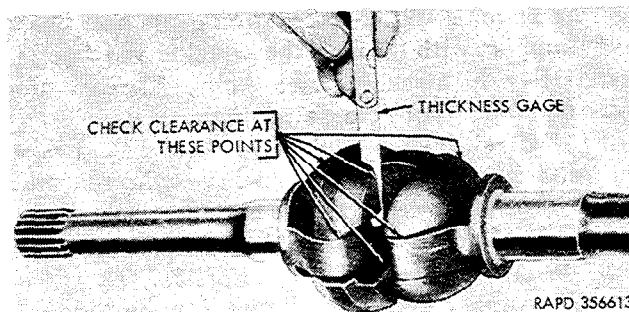

Figure 2-141. Checking universal drive parts for wear.
(1) Inspect the lubricant in the steering knuckle flange for evidence of differential lubricant. Differential lubricant in the flange indicates leakage past the drive shaft oil seal. Notify direct support maintenance personnel.
(2) Clean the parts in drycleaning solvent or volatile mineral spirits and clean the inside of the bearing flange.
(3) Inspect the splined surfaces of the inner and outer shafts for cracks, abrasions, or chipping. Check the shafts for distortion or damaged bearing surfaces.
(4) Inspect the universal joint parts for cracks, chipping, or scoring.
(5) Assemble the shafts and universal joint, and check for clearance between parts as shown in figure 2-141. If clearance at any of the checking points exceeds 0.015 inch, replace the shaft assembly.